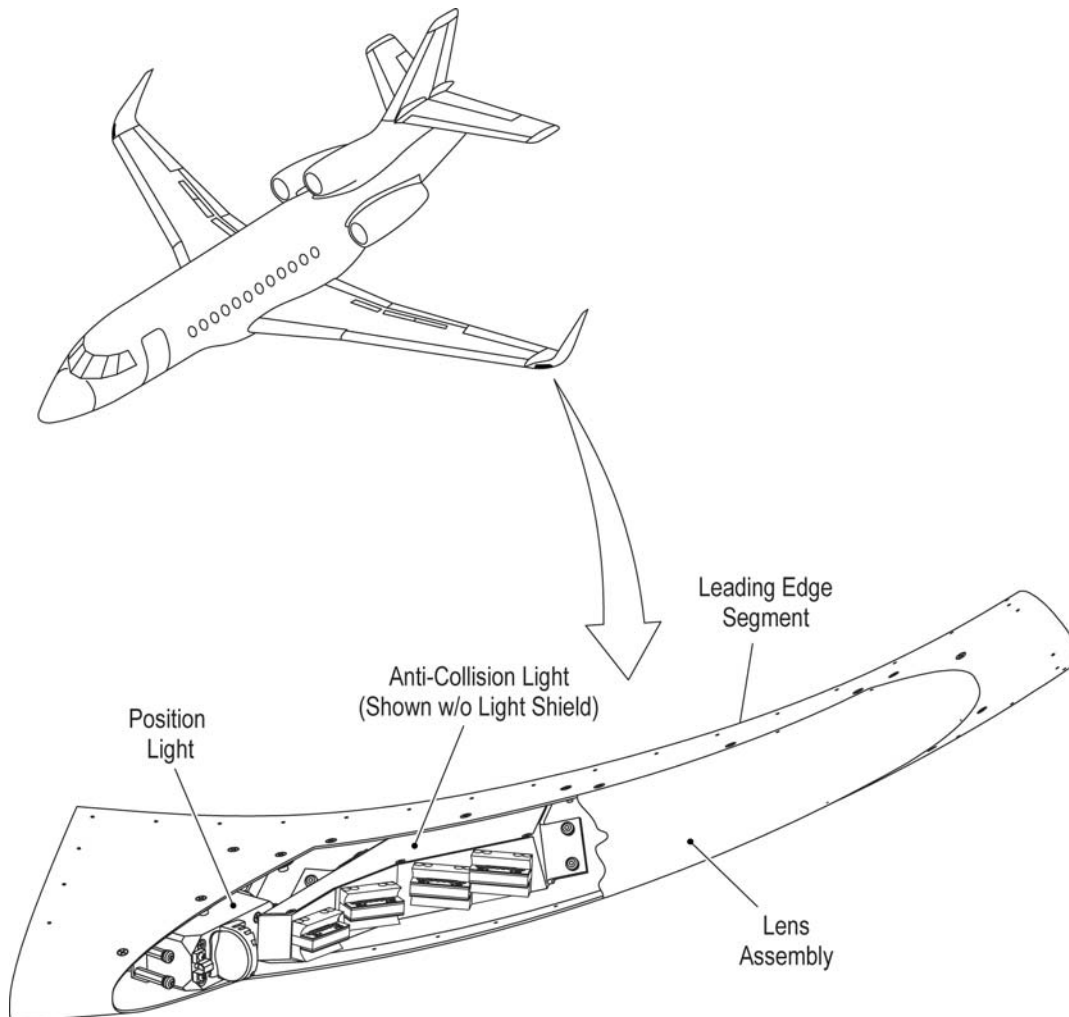

FIGURE 2: LED LIGHT ASSEMBLIES WITH API WINGLETS
- (1) See Figure 2: LED Light Assemblies with API Winglets